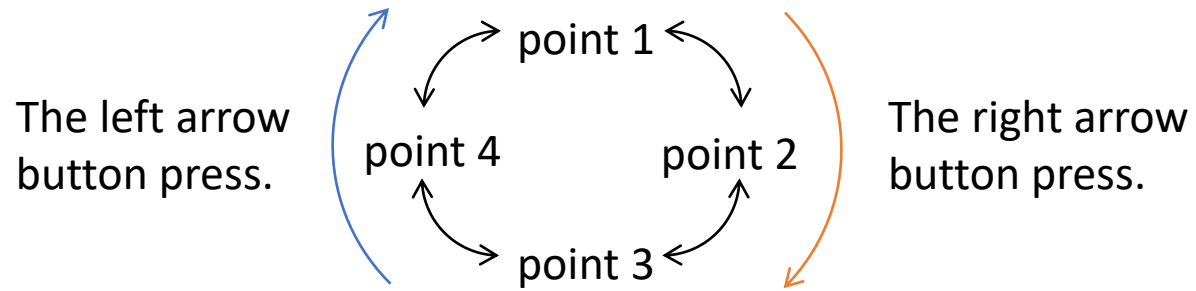

Figure 2.
- 2) In Figure 1. there are four points: (-120 mm, 120 mm), (-72 mm, 136 mm), (56 mm, 136 mm), and (160 mm, 96 mm). As Figure 2., whenever a right or a left arrow button is pressed, let the manipulator's tip place at each point. That is, when the first right press, it places at point 1. Next when the second press, at point 2. But if the left press, it places again at point 1.